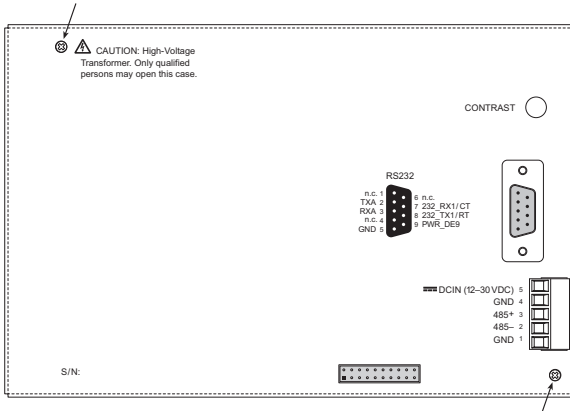

Figure 2-4. OP7100 Back Cover
1. Unplug any power supply connected to the OP7100 and remove the back cover from the OP7100 assembly. The back cover is attached with the two screws shown in Figure 2-4.